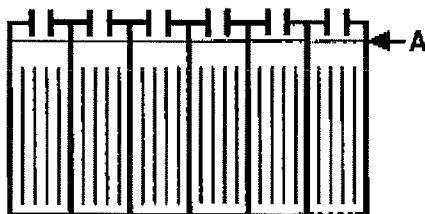

FIG. 39
2. Check fluid level (A) in each battery cell. The fluid level should be 1 cm (3/8 in.) from the bottom of sight tubes after charging. Add distilled water if needed. **DO NOT OVERFILL.** Overfilled batteries can overflow during charging due to fluid expansion (Figure 39).